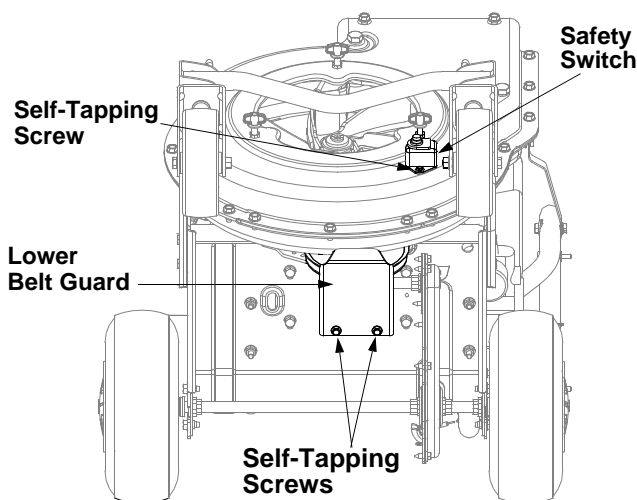

Figure 14
- Remove the lower belt guard by removing the two self-tapping screws. See Figure 14.
- Remove the safety switch from front of the outer housing by removing the two self-tapping screws. See Figure 14.